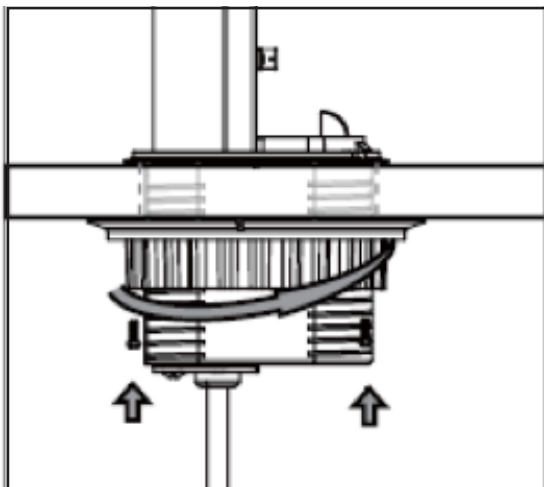

Fig 2
- Put product in desired orientation and insert rubber gasket to bottom. Tighten the mounting collar to the underside of the surface (see Fig 2)